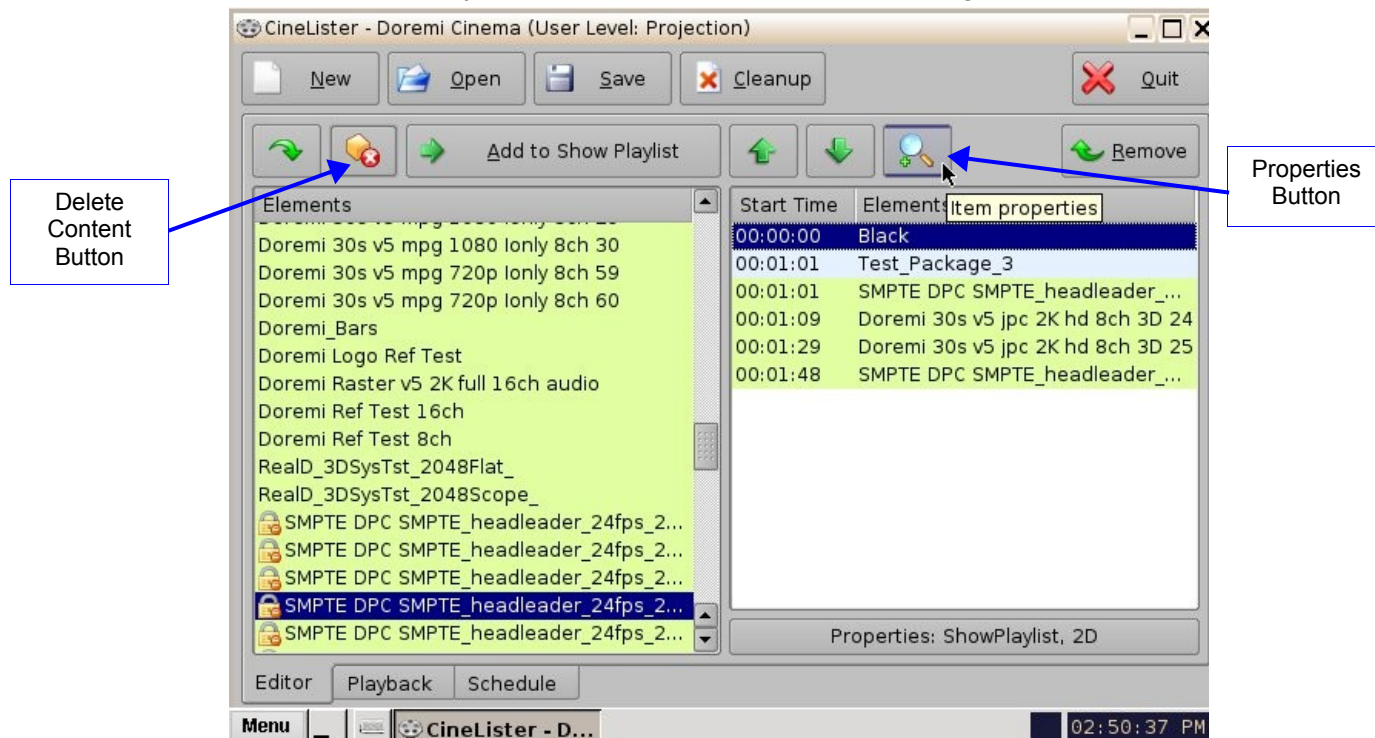

Figure 169: CineLister GUI – Editor Tab
- To view the properties of any element in a Show Playlist, select the element from the right side of the GUI. Either double-click on the selected item or click on the Properties button (Figure 169).
- Select the CPL on the left part of the Editor tab GUI and click on the Delete Content button (Figure 169).